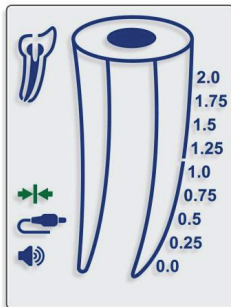

Fig. 3
- 7.3.2 "Connection" icon →↔← should appear on the display, indicating proper connection (Fig. 3).